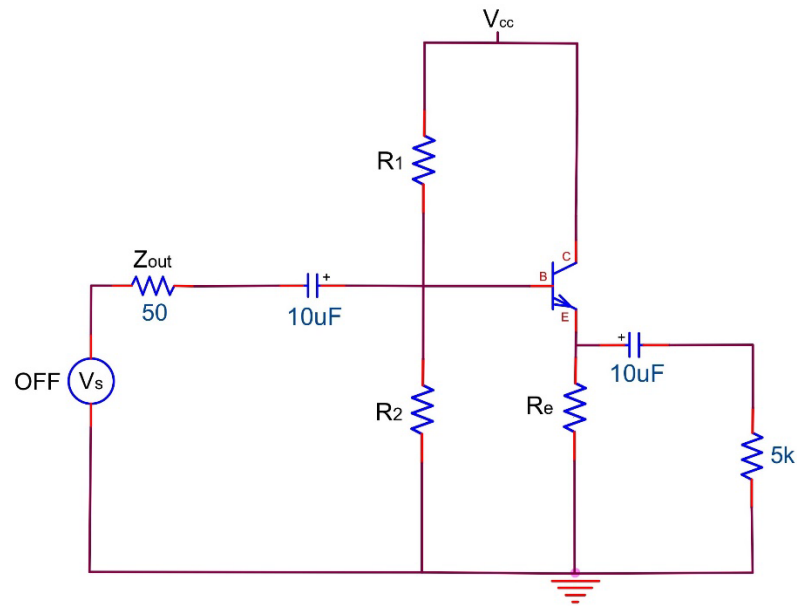

Figure 8.3
2. Apply the power supply with the voltage calculated in the pre-lab. Turn off or disconnect the signal generator. Measure and record I_C by measuring the voltage across R_E . Measure and record V_{CE} . Compare your measured Q point to the one used in the pre-lab, refer to Figure 8.3.